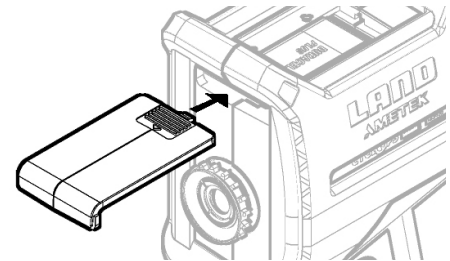

Fig. 4-4
- 5) Insert the battery, ensuring that the contact springs engage centrally into the battery terminals. Slide the battery cover back into place (see Fig. 4-4).